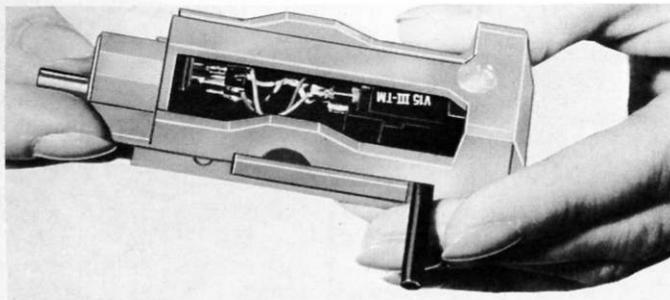

fig. 9
4. By help of the adjustment screw, regulate now so that the needle point coincides exactly with the crosslines in the lens (fig. 9). Finally, the screw **C** is tightened.